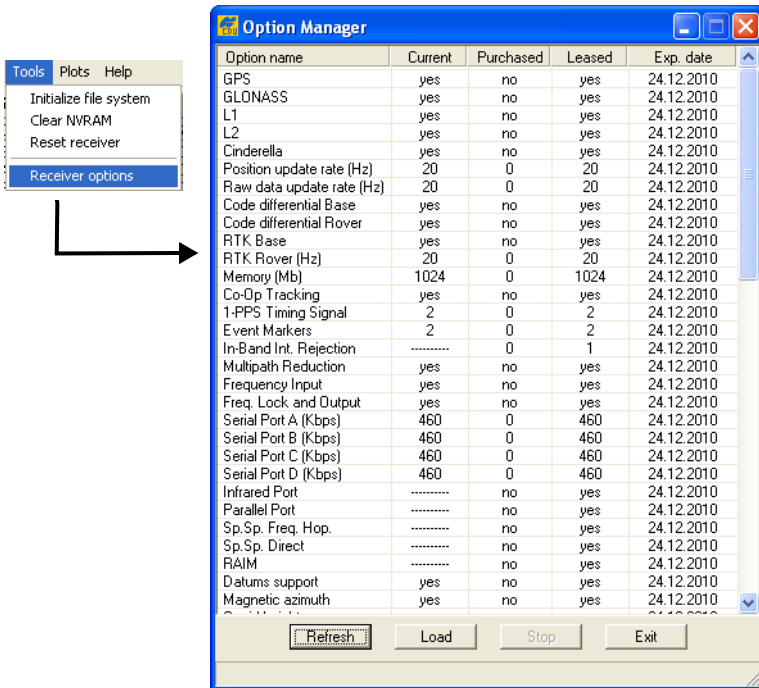

Figure 5-15. View Option Manager
2. Click **Tools ▶ Receiver Options**. The *Options Manager* dialog box (Figure 5-15 on page 5-14) contains the following information:
- Click **Upload OAF** at the bottom of the *Receiver Options* dialog box (see Figure 5-15 on page 5-14).
2. Click **Load** at the bottom of the *Option Manager* dialog box (see Figure 5-15 on page 5-14).